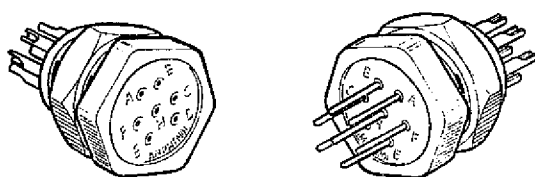

Fig. 4. Miniature hexagonal connectors
5. Typical examples of this type of connector are illustrated in fig. 4. The hexagon nut type has a moulded thread and mounting nut and is available with either pin or socket contacts. An alternative chassis mounted receptacle with locking clip is available for cable to chassis inter-connection and mates with a plug fitted with hood and cable clamp. Contacts are gold plated for easy soldering. Table 3 lists part numbers and constructional details.